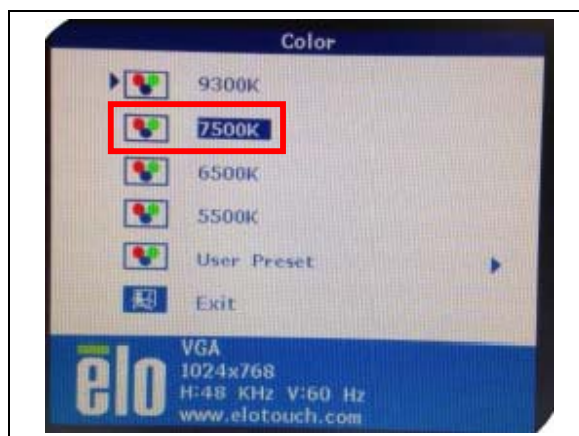

Figure 6
- (4) Press the  button several times until the **7500K** option is highlighted. See figure 6.